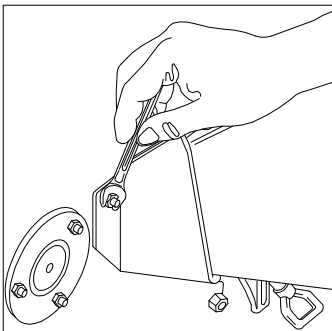

Fig. 13
- Remove the side hopper by unscrewing the 3 nuts as shown in fig. 13.
- Remove the side hopper by unscrewing the 3 nuts (fig. 13) .